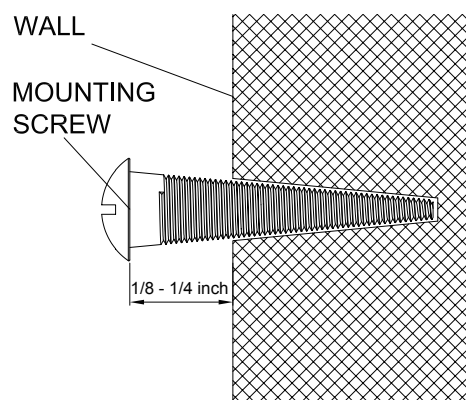

Figure 7
2. Insert mounting screws into wall studs. tighten screws to leave a 1/8 - 1/4 inch space from back of screw to wall. (see figure 7)